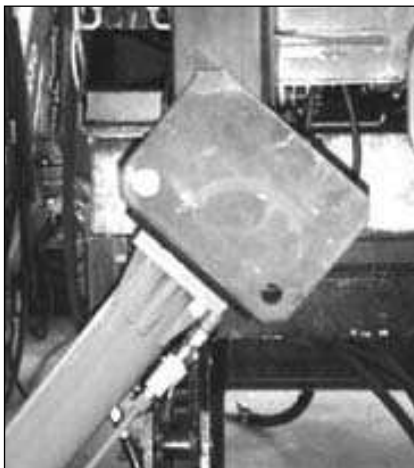

fig. 24
- Remove the check pin and then the locking pin (fig. 24) from its seat.